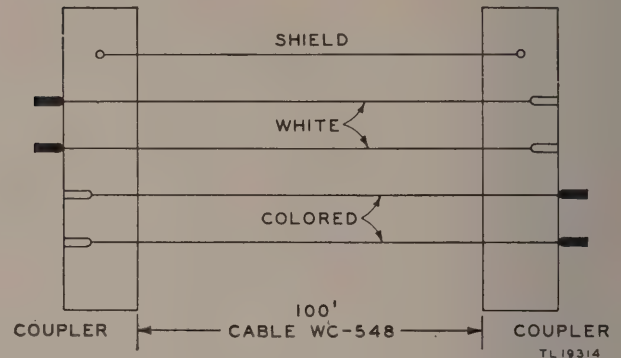

Figure 159. Cable Assembly CC-368-S, schematic diagram.
f. CABLE ASSEMBLY CC-368-S AND CABLE STUB CC-356-S. The cable assembly and cable stub used to connect the spiral-four cable to the transmitter at a radio terminal station are described in paragraph 31k and l. Their schematic diagrams are shown in figures 159 and 160.